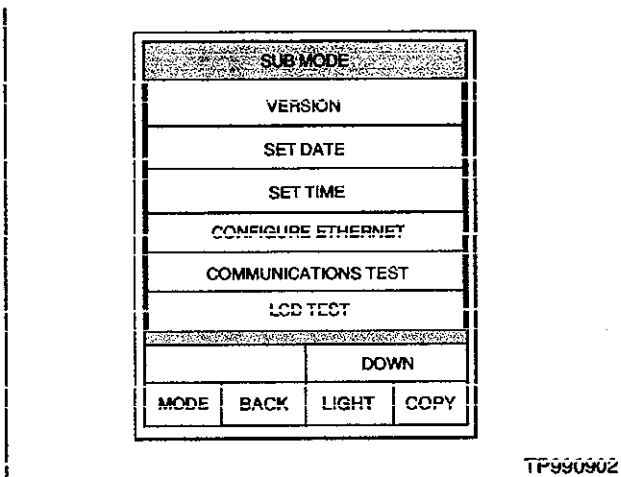

Figure A2
- B. Touch "**SUB MODE**" (see Figure A2).